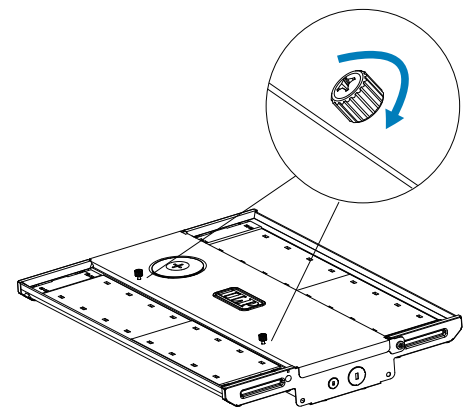

Figure 19
- Reattach the driver compartment door and secure the door with screws to complete the installation (Figure 19).